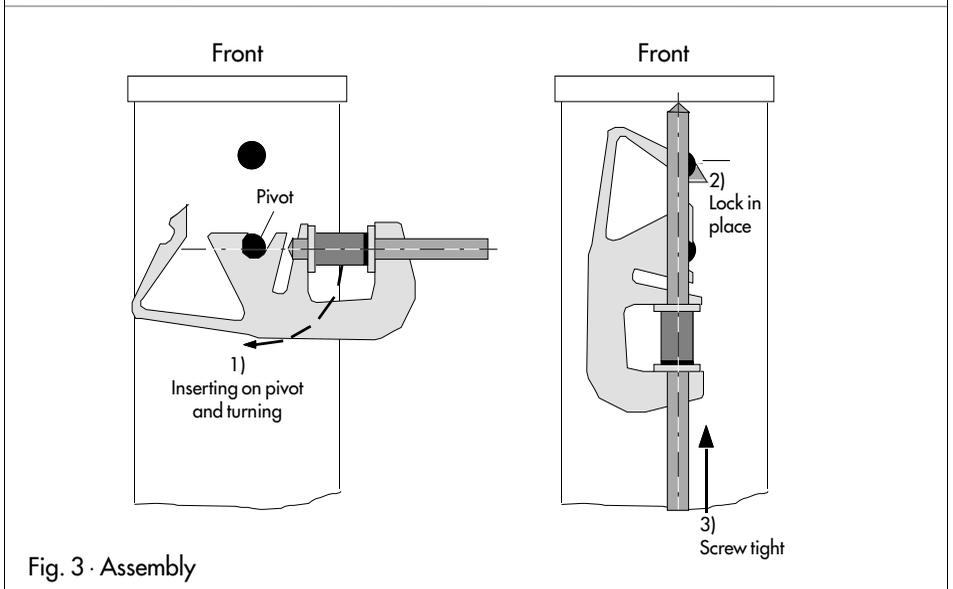

Fig. 3 · Assembly
**TROVIS 6494** is smartly engineered as a panel-mount unit, the front dimensions of which compactly measure  $48 \times 96 \text{ mm}^2$ . A panel cut-out of  $45^{+0.6} \times 92^{+0.8} \text{ mm}^2$  is to be fabricated for assembly of the plastic enclosure. After sliding the controller in the panel cut-out, the supplied clamps depicted in Fig. 3 are to be locked in place at the top and bottom in the accommodating pins of the enclosure. A screw driver can consequently be used to turn the threaded rods, clamping the controller's front frame against the panel.